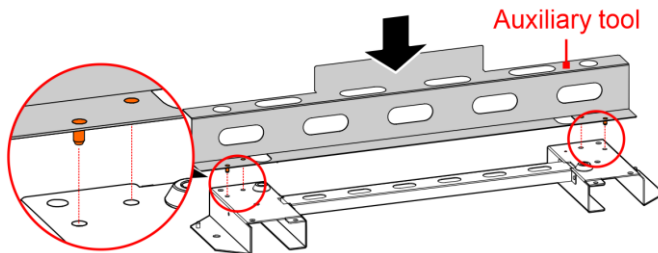
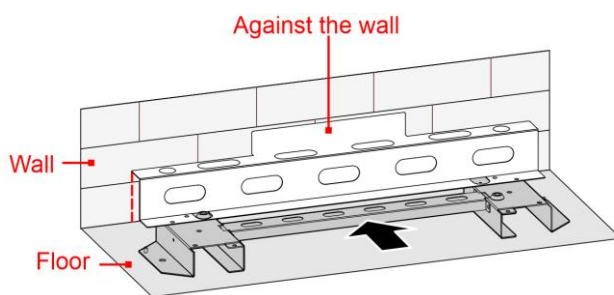

Figure3-7 Assemble the auxiliary tool
Figure3-8 Push the assembled base against the wall
- Step 1 Assemble the auxiliary tool onto the base module, and then push the assembled base against the wall to determine the installation place, as shown in Figure3-7, Figure3-8.